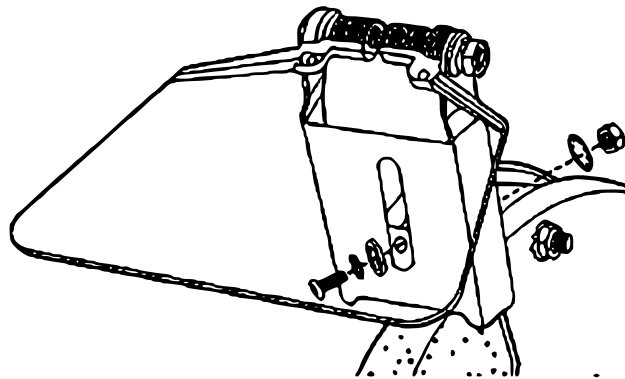

Figure 1
3. Screw a screw **(5a)** through the spark protection slot **(5)** and the hole on the top of the wheel protection **(6)** (see Fig. 1).